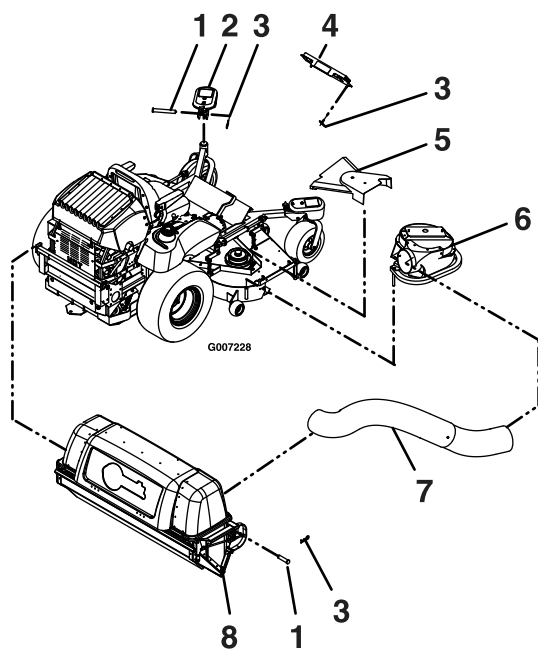

Figure 5
3. Install the bagger assembly onto the mount by slipping the hook portion over the top mounting tube of the mount weldment (see Figure 5). Secure the assembly to the mount using the clevis pins and hairpins.